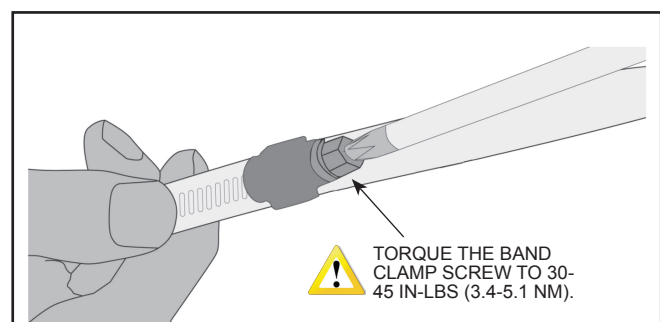

Figure 3: Band Clamp Screw Threads
6. Torque the band clamp screw to 30-45 in-lbs (3.4-5.1 Nm). See Figure 3.